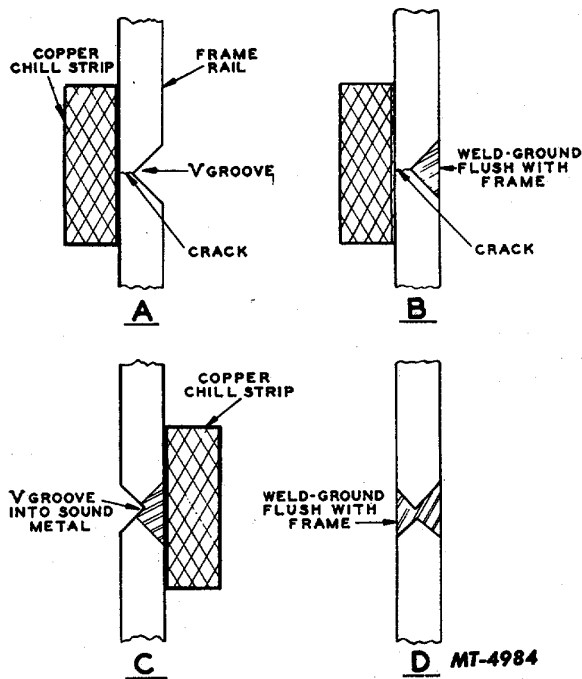

Fig. 7.
- a. Grind a V notch or groove extending along the full length of the crack and slightly beyond each end of the crack. A heavy copper strip or "chill" should be clamped to the rail side away from the groove to help control the temperature and cooling rate. See Fig. 7.
- e. When sufficient metal has been deposited, the weld bead should be ground flush, Fig. 7, with the surface being repaired.
"chill" strips should be used wherever possible. The V-groove ground on the opposite side of the repair should be deep enough to enter the sound metal of the first weld repair "C" of Fig. 7.